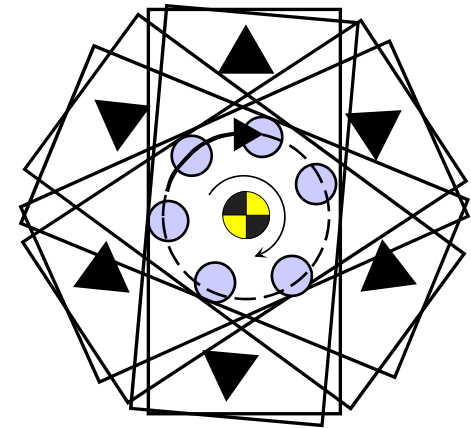

Fig. 1
- As seen in Fig. 1, as the vehicle spins, the driver rotates or spins about the center of mass of the vehicle.